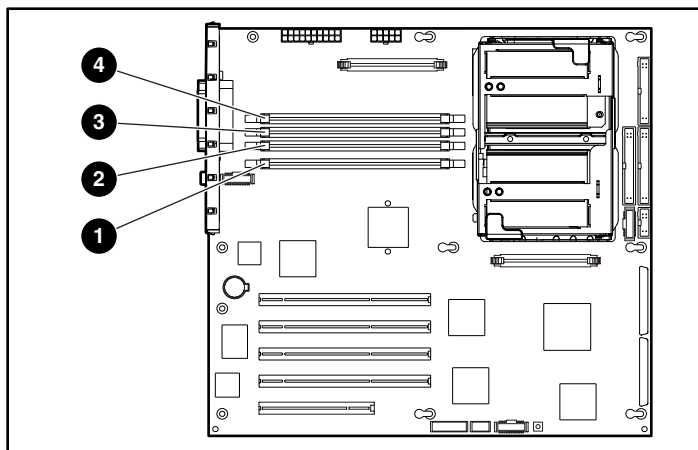

Figure 3-25: Locating DIMM sockets
- Populate DIMM sockets 1 and 2 first before installing in sockets 3 and 4 (if needed). Refer to Figure 3-25 and Table 3-3.
This server supports up to 8 GB of memory. Memory can be installed singularly in DIMM socket position 1 (non-interleaving memory) or in combinations of 128-MB, 256-MB, 512-MB, 1-GB, and 2-GB modules (to support interleaving memory functionality). The server has four DIMM sockets located on the system board (refer to Figure 3-25).